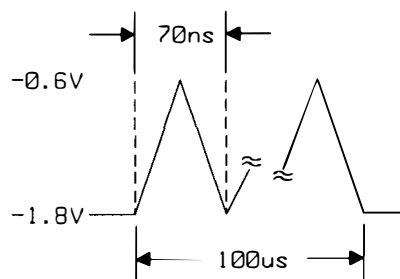

Figure 10.3-14. Width Generator ramp signal
- Check the ramp signal at pin 20 of U240 against Figure 10.3-14.